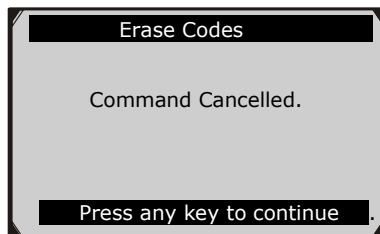

Figure 6.11
4. If you do not want to erase the codes, press **No** function key or **ESC** button to exit. A message of “**Command cancelled**” will show up. (Figure 6.11)